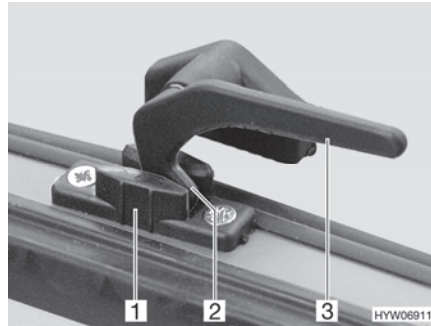

Fig. 47 Catch lever in "continuous ventilation" position
- "Continuous ventilation" (Fig. 47)
- Turn all catch levers (Fig. 47,3) a quarter turn towards the centre of the window.
- Return all catch levers to their initial position. The locking catch (Fig. 47,2) has to be moved into the recess of the window catch (Fig. 47,1).